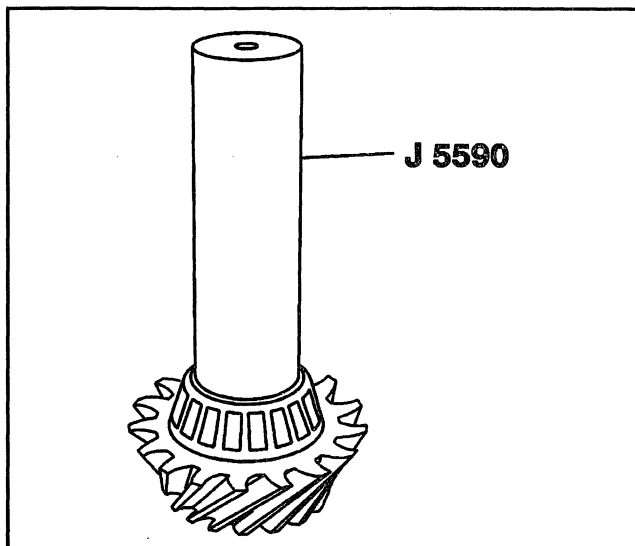
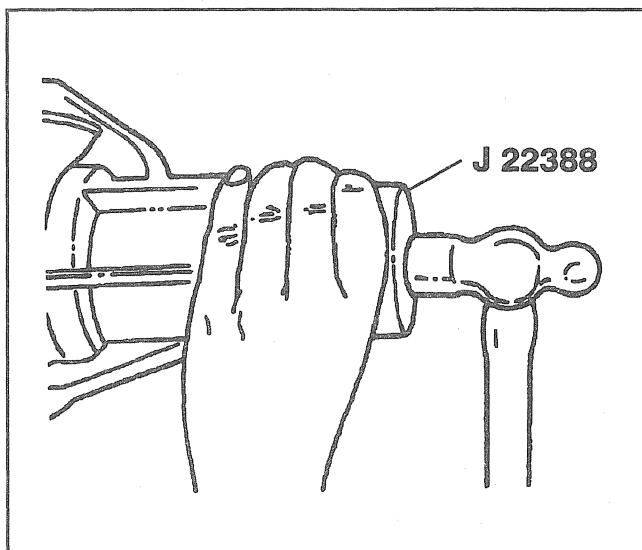
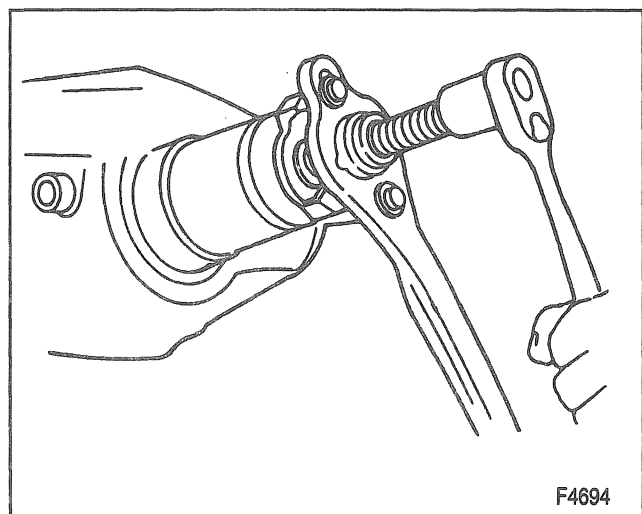

Figure 15—Installing the Pinion Inner Bearing
Figure 16—Installing the Pinion Oil Seal
Figure 17—Installing the Pinion Flange
- Press the bearing onto the pinion until the bearing cone seats on the pinion shim(s) (Figure 15).
- 2. A new collapsible spacer (11).
- 3. Pinion (15) to the axle housing.
- 4. Outer pinion bearing (10) onto the pinion using J 5590.
- 5. Pinion oil seal (9) using J 22388 (Figure 16).
- 6. The pinion flange (8) to the pinion by tapping it with a soft-faced hammer until a few threads show through the pinion flange.
- 7. The pinion washer (7) and nut (6) while holding the pinion flange with J 8614-01 (Figure 17).